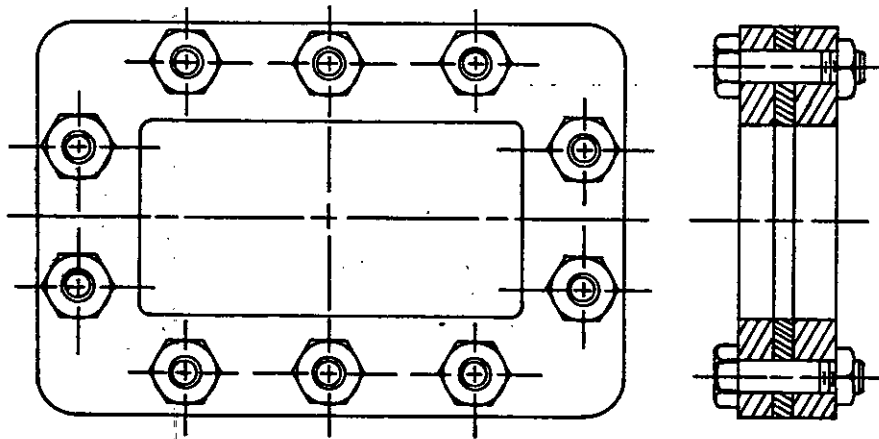

FIGURE 7.1. Typical contact coupling.
7.1.1.1 Contact flanges. Contact flanges are designed to mate with an identical flange. These flanges usually incorporate a gasket at the junction between flange faces to provide pressure sealing and enhance RF contact between flanges. The flange is mounted to the waveguide by inserting the waveguide through the flange and machining the flange face flat or by terminating the waveguide in a raised or recessed socket in the back of the flange. The gasket used with these flanges may be an O-ring type that is inserted in a groove machined into the flange face, or a one piece metal-rubber gasket may be used. The metal-rubber gasket is a metal plate using the same inside and outside dimensions and the same hole pattern as the mating flanges. A rubber sealing section is molded into the metal plate around the waveguide opening. A raised electrical contact area around the waveguide opening assures a low resistance contact area. When the O-ring type gasket is used, the O-ring provides pressure sealing and a raised area around the waveguide opening provides electrical contact. Care must be exercised to avoid pinched O-rings with resulting poor electrical contact at the flange face. Contact flanges are round in the millimeter frequency ranges, square from roughly 8 to 40 GHz, and rectangular at lower frequencies. Flanges for use above 26 GHz utilize alignment pins that are usually inserted after the flanges are attached to the waveguide. These pins insure accurate alignment of the interior surfaces of the waveguide at the flange junction. Contact flanges are usually made from various brass or aluminum alloys, depending on the method of manufacture. Flanges may be machined from forgings, castings, or bar stock. A typical contact coupling and gasket to be used with the coupling are shown in figures 7.1 and 7.2.